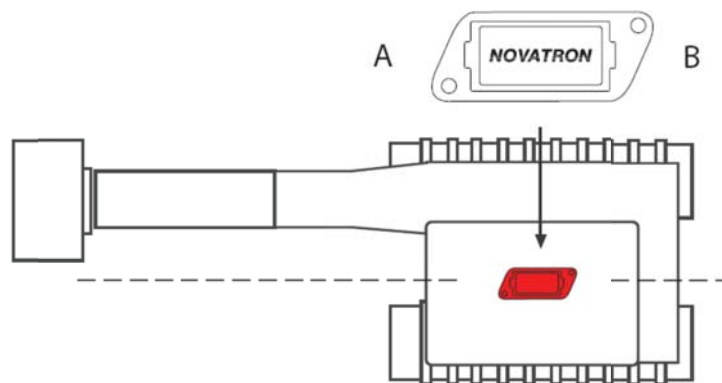

Figure 15. Frame sensor, mounting orientation B1
- B1: on the top, measurement axis A pointing to the bucket (Figure 15)